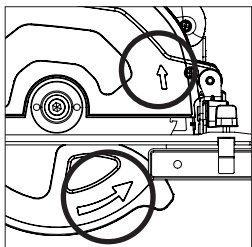

**Fig. 5**
- Rotate the lower blade guard up into the upper blade guard using the manual thumb lever. **(Fig. 5)**